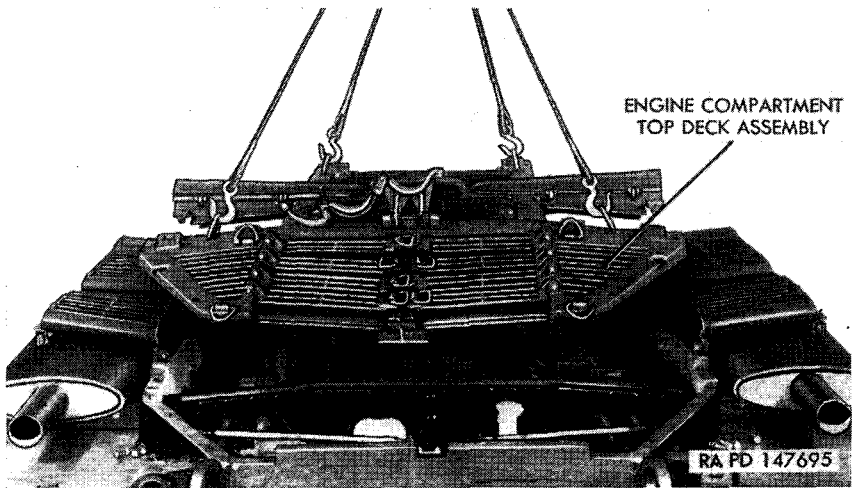

Figure 125. Removing or installing top deck with sling 41-S-3832-46.
- (9) *Remove top deck assembly.* Install lifting sling 41-S-3832-46. Secure two hooks to lifting loops on engine compartment rear crossbeam (fig. 101) and two loops on engine compartment front grille door supports. Remove engine compartment top deck assembly by lifting it carefully from the tank (fig. 125).